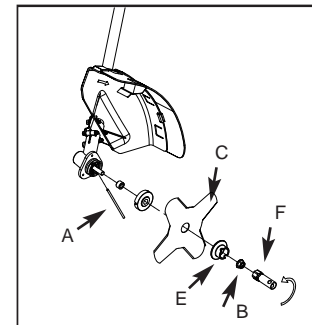

Fig. 6B
2. Install blade (C) with teeth pointing CLOCKWISE as shown in the illustration (Fig. 6B).
3. Install flange (E) with FLAT SURFACE facing blade (Fig. 6B).
4. Tighten nut (B) securely by turning it COUNTER-CLOCKWISE with socket wrench (F). Remove holding pin (Fig. 6B).